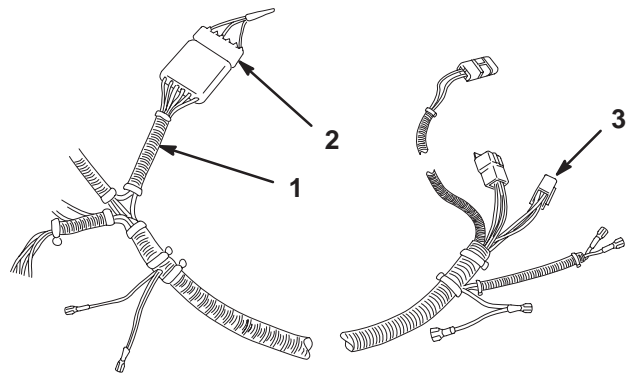

Figure 4
- Unplug the cap from the taillight harness and plug in the signal control harness (Fig. 4).
7. Plug the remaining end of the signal harness into the open plug in the taillight harness (Fig. 4).